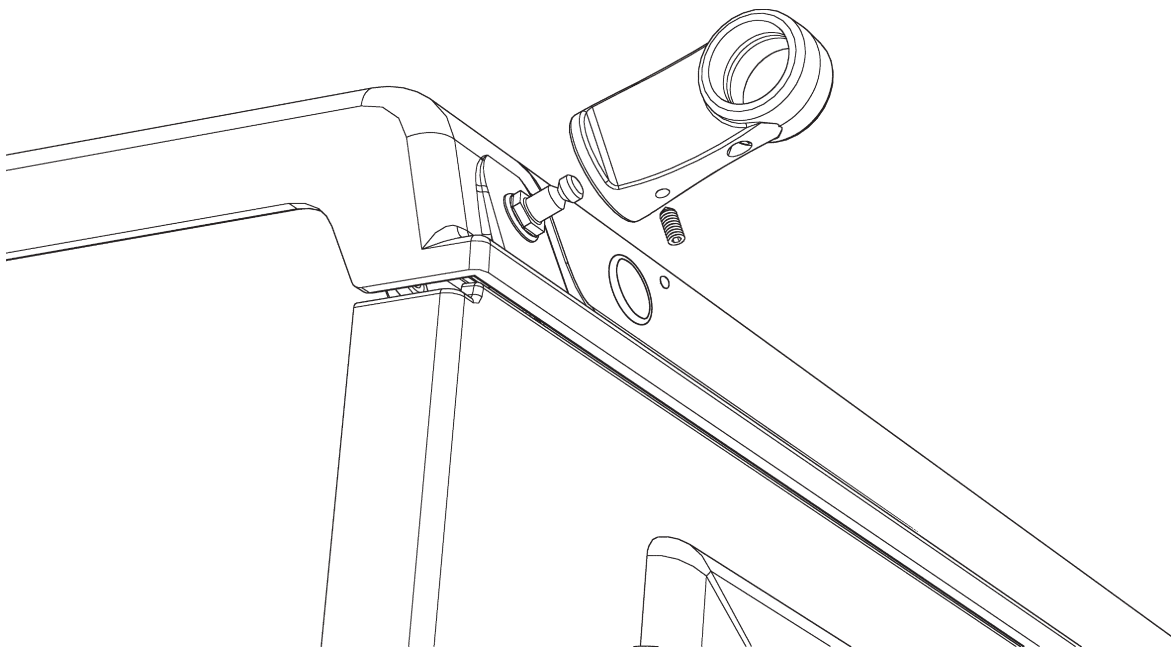

Fig. 20
9. Fit the handrail bracket over the fixing stud located on the top plate. Lock into position by tightening the grub screw nearest the appliance. (See Fig. 20).